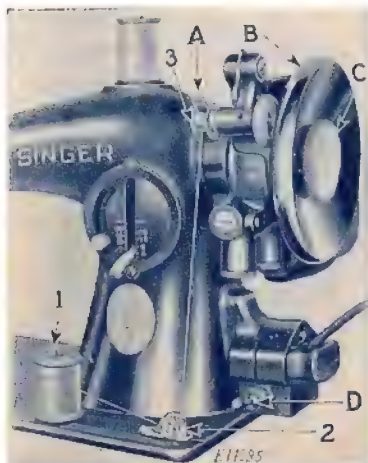

FIG. 5. WINDING THE BOBBIN
Push the terminal plug at one end of the electric cord as far as it will go on the three-pin terminal block at the right of the machine as shown in Fig. 5. Attach the plug at the other end of the cord to the nearest electric outlet and the machine is ready for operation.
To turn the SINGERLIGHT "on" or "off," a switch is conveniently located at the front of the three-pin terminal block, as shown at D, Fig. 5.
It is necessary to understand the stop motion (C, Fig. 5) by which the balance wheel (B, Fig. 5) can be released when required. thus permitting the winding of bobbins without running the stitching mechanism.
ing the small pin in the shoulder enter the hole in the side of the bobbin. Put the spool of thread on the spool pin (1). Draw the thread under and between the tension discs (2) on the bed of the machine, then pass the thread up and through the hole (3) in the left side of the bobbin, from the inside. Press down on the bobbin and the bobbin winder latch (A, Fig. 5) will drop down and hold the bobbin winder pulley against the hub of the balance wheel. Then press the knee lever or the treadle the same as for sewing.
If the thread does not wind evenly on the bobbin, loosen the screw which holds the tension bracket (2, Fig. 5) in position on the bed of the machine and slide the tension bracket to the right or left, as may be required, then tighten the screw.